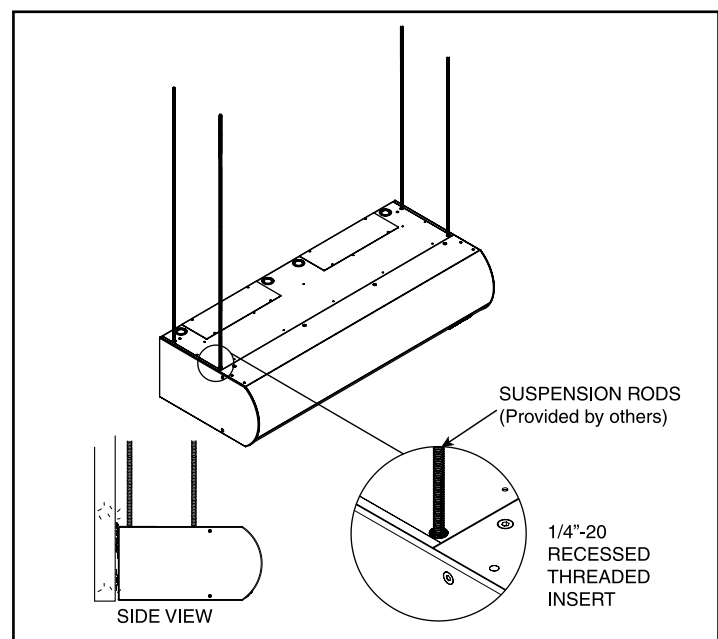

Figure 6 - Suspended Mounting
- A. For top mounting using suspension rods, four (4) factory installed 1/4"-20 threaded inserts are located on the top of the unit. **See Figure 6.**